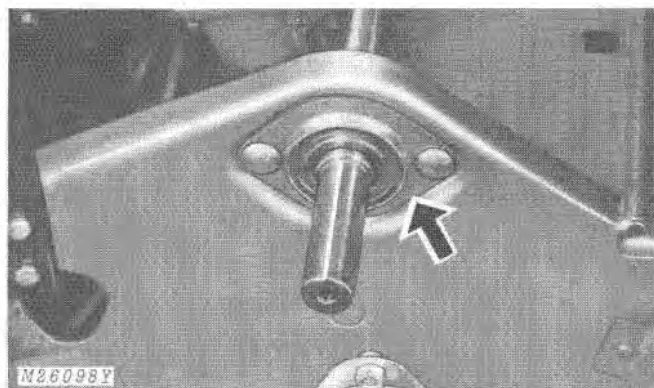

Fig. 11-Left-Hand Secondary Shaft Bearing
3. Install locking collar, bearing and flangettes on shaft and secure to left side of tunnel, Fig. 11.